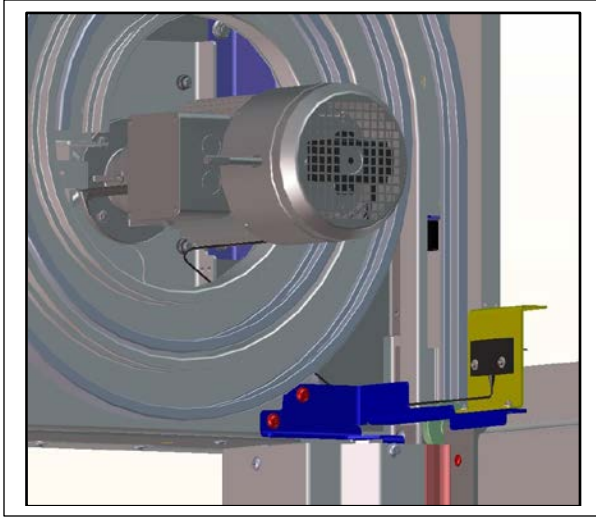

Figure 79
8. Route the antenna and cable through the head assembly and exit near the old antenna cable. (See Figure 79.)
10. Mount the new antenna to the bracket, the tan cable **MUST** exit towards the floor from the antenna (as shown in figure 79).